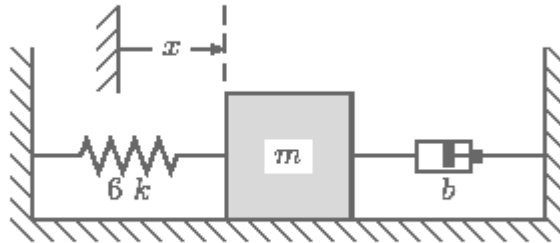

Figure 7:
4. For the spring-mass-damper system shown below figure 7,  $x$  is measured from the static equilibrium position. If the surface is assumed to be frictionless: